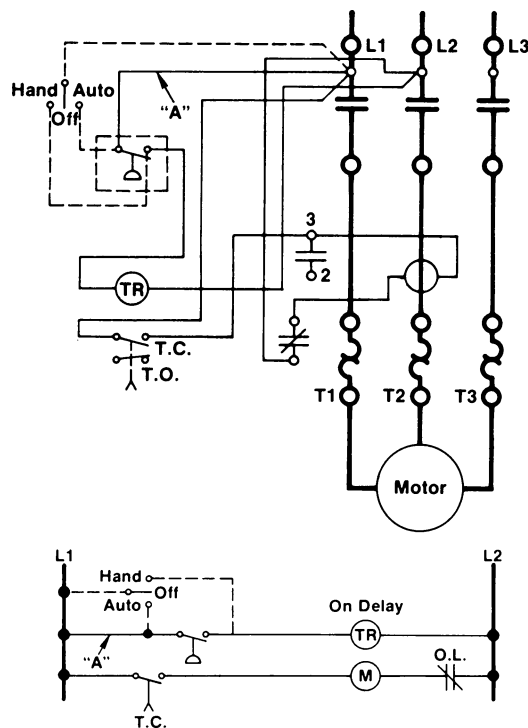

Fig. 15-26 Pump operation with backspin protection and surge protection. (Allen-Bradley)
Another system that provides backspin protection and surge protection on stopping is shown in Fig. 15-26. It also has time delay between pressure switch closing and motor starting. The pressure switch energizes the timer (TR), but the motor cannot